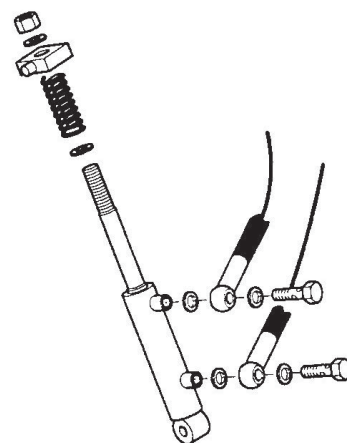

Fig 3.10
- adjustment to the Lifting Ram height, Fig 3.10.